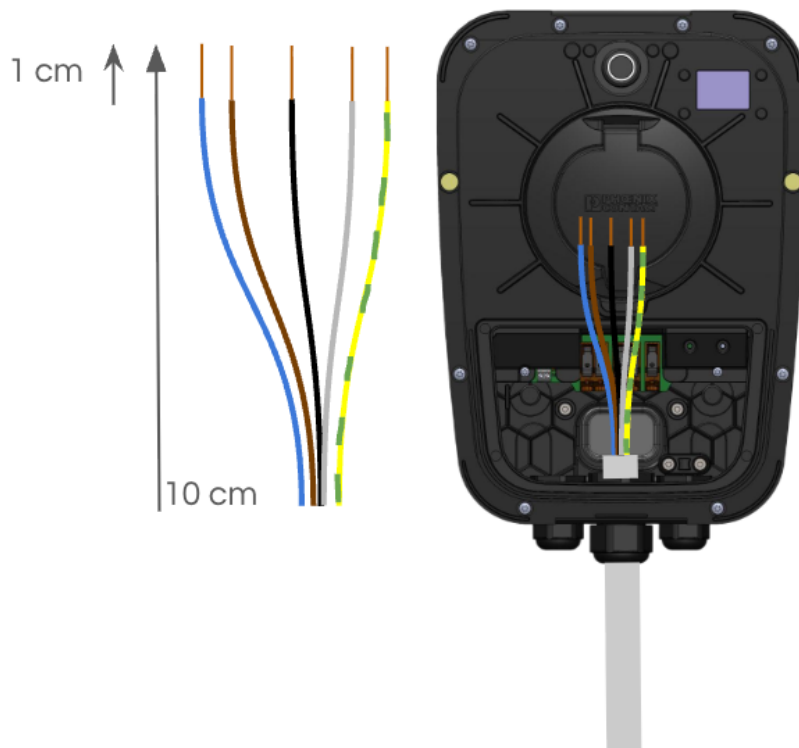

Figure 1: A representation of the cable length and the correct order of the wires
- Bend the cable towards you and strip the outside layer. Make sure you keep roughly 1 cm of cable with the outside layer inside the charger (see figure 1)*